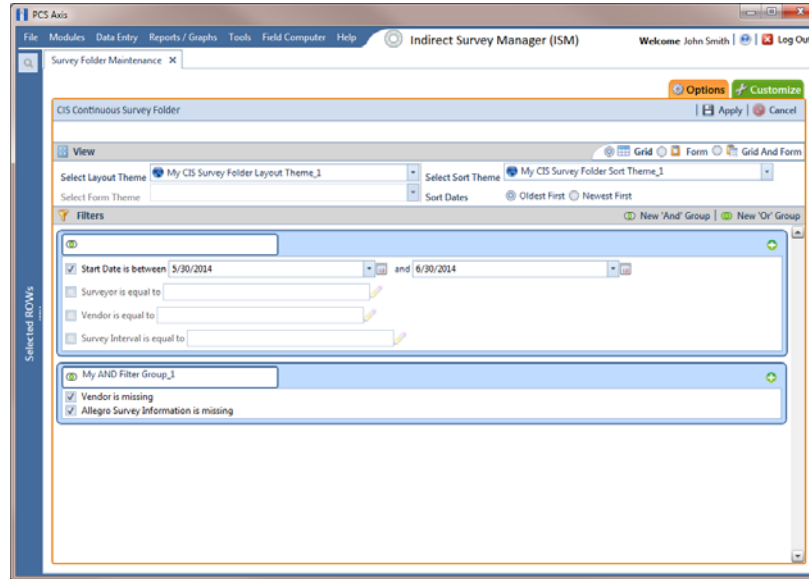

Figure 6-19. Options
- 15** To apply one or more custom filter groups to the *Survey Folder Maintenance* grid (Figure 6-19, page 204):